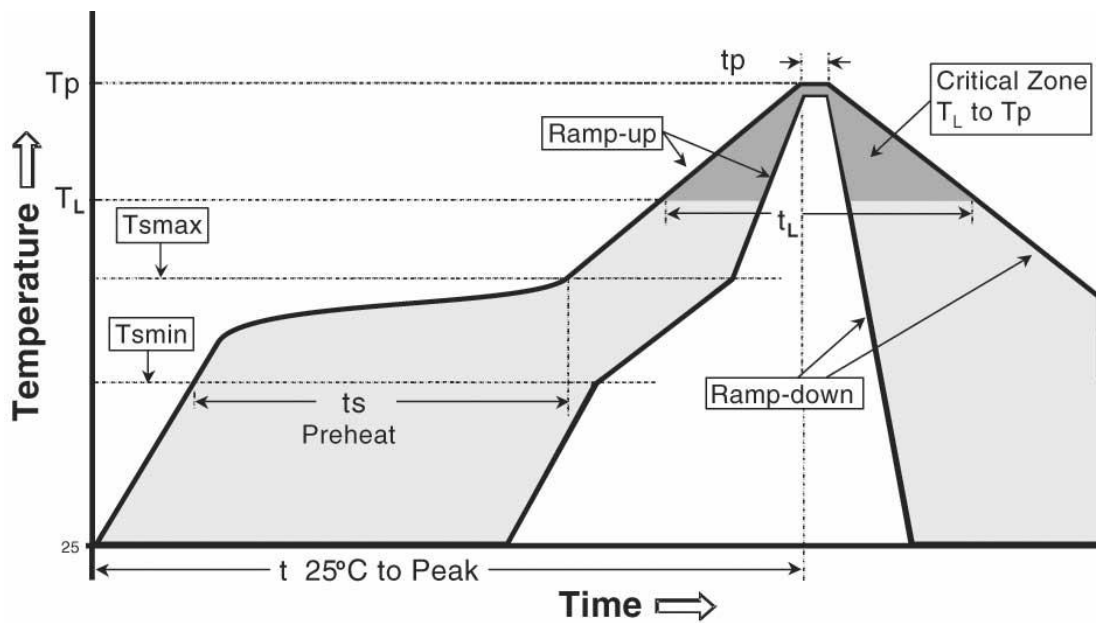

Figure 8 – Temperature profile.
2. Perform a reflow process according to the temperature profile detailed in Table 6, Figure 8.